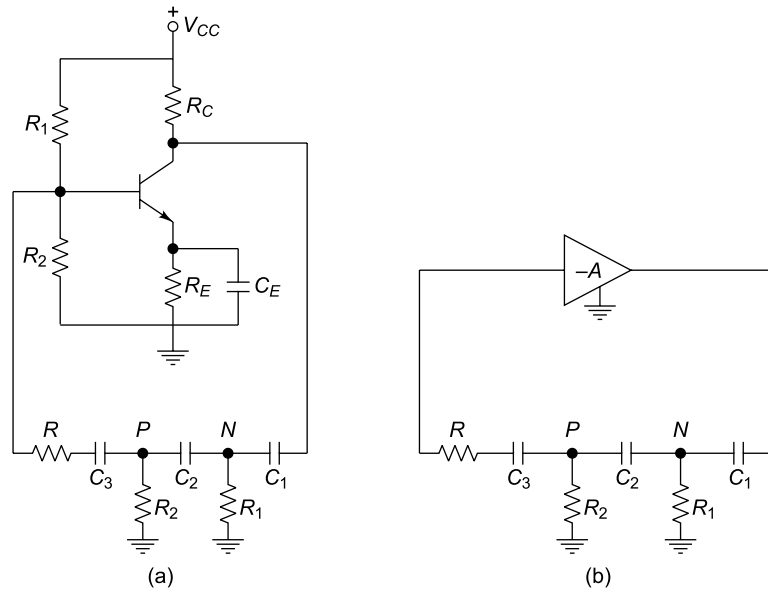
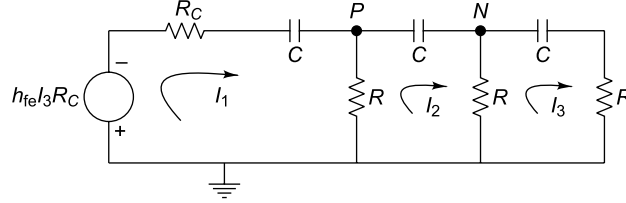

Fig. 3.11 R-C phase shift oscillator using BJT
Fig. 3.14 Simplest ac equivalent circuit of Fig. 3.11
Figure 3.11 shows the BJT phase shift oscillator. The quiescent operating point of the transistor is determined by the resistances R_1 , R_2 , R_C , and R_E and supply voltage V_{CC} . The bypass capacitor C_E is connected in parallel with R_E and provides very small reactance at the low frequency signal. In this circuit, the transistor operates in common emitter configuration and it provides a 180° phase shift between input and output voltages. There are three R - C sections in the circuit and these three R - C sections provide another 180° phase shift. Hence the net phase shift around the loop is 0° or 360° . In this section the detail circuit analysis is explained.
circuit of Fig. 3.11 is shown in Fig. 3.12. As h_{re} is very small, the value of $h_{re} V_2$ may be neglected. As $\frac{1}{h_{oe}} \gg R_C$, we can also neglect $\frac{1}{h_{oe}}$. Then the equivalent circuit is modified as represented by Fig. 3.13. This circuit can be represented in most simplified form as shown in Fig. 3.14. There are three loops and loop currents are I_1 , I_2 and I_3 .
Fig. 3.12 ac equivalent circuit of Fig. 3.11
Fig. 3.13 ac equivalent circuit of Fig. 3.11 when $h_{re} V_2$ and $\frac{1}{h_{oe}}$ are neglected
3.2 Find the frequency of oscillation in an RC phase shift oscillator as shown in Fig. 3.11. Assume $R = 20 \text{ k}\Omega$, $C = 0.047 \text{ }\mu\text{F}$, $R_C = 4.7 \text{ k}\Omega$. Determine the minimum value of current gain for the oscillation.